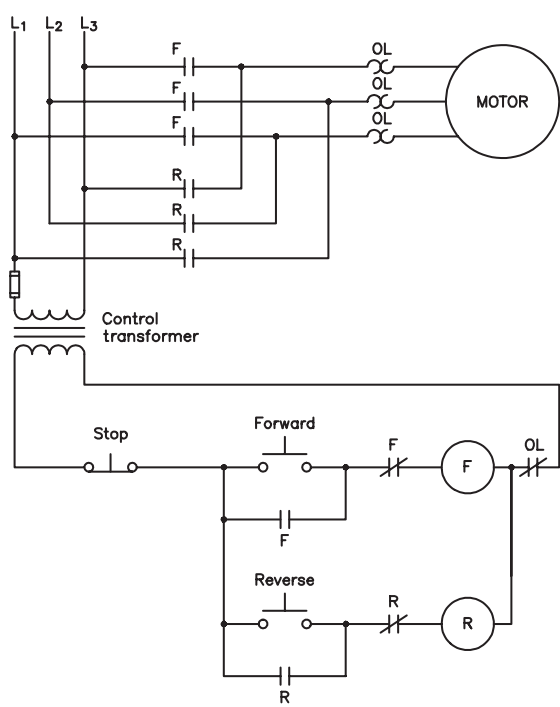

Figure 28-8 F and R normally open auxiliary contacts are connected incorrectly.
5. How would the circuit operate if the normally closed auxiliary contacts were to be connected so that F contact was connected in series with F coil and R contact was connected in series with R coil (Figure 28-8)?